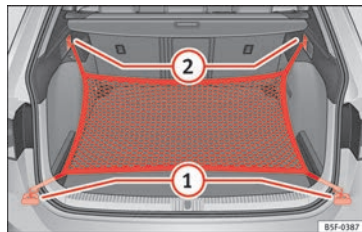

Fig. 182 In the luggage compartment: rings (1) and hooks (2) for securing the net bag (LEON ST model).
- Secure the short net hooks to the fastening rings »» Fig. 182 ① »» ⚠. The bag zip should be facing upwards.
- Secure the straps in the bag hooks ②.